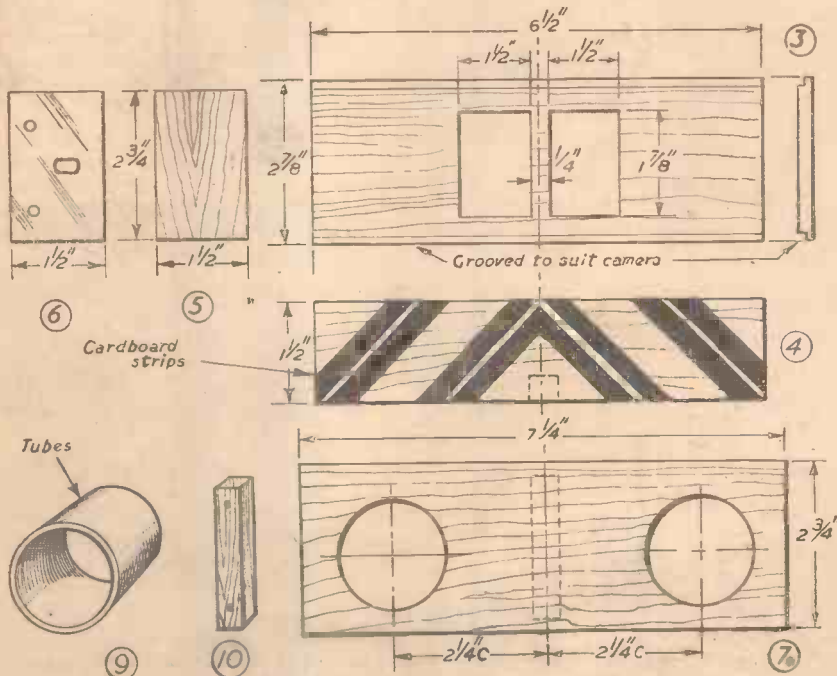
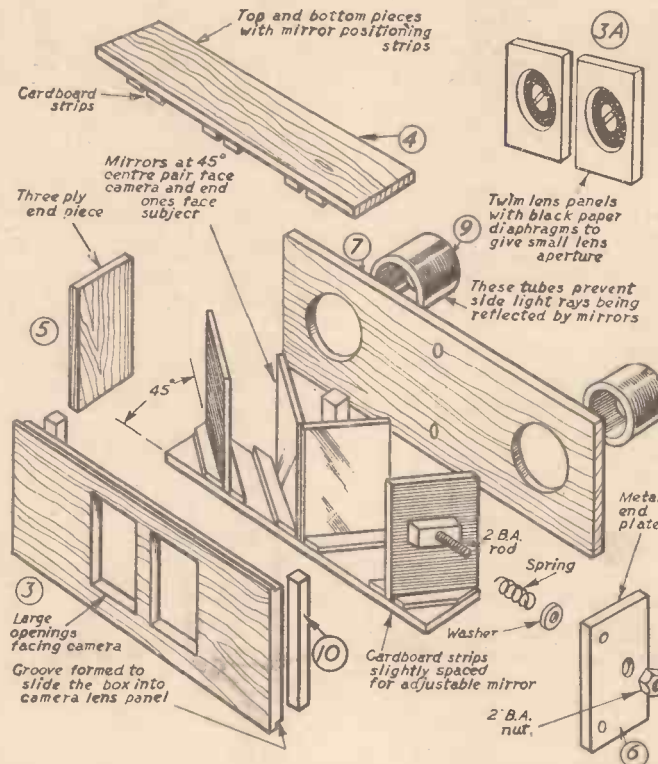

Fig. 1a.—Details of end pieces and front and back panels.
Fig. 2.—Exploded view of the adaptor, showing the various parts in order of assembly.
The completed adaptor is shown, and at the lower extremity will be seen the mirror adjusting nut. Owing to its importance, a cut-away sketch of the arrangement is shown just above the complete adaptor. Also in the exploded view, in Fig. 2, the several small parts can clearly be seen in order of assembly.
Referring now to Fig. 1a. Depending on the sizes, the front panel 7, and back panel 3 of the box are cut out of 3/16in. plywood, together with the top and bottom pieces 4. The black strips shown are cardboard strips glued on, and are set at 45 deg. with the front. These strips must, of course, be glued to form a right- and left-hand duplicate. In other words, the slots for the mirrors which these card strips form, are inside the adaptor. This will be clearly seen in Fig. 2. The slots should be clearly marked on the top and bottom plywood pieces in clear pencil lines, using a 45 deg. set square, and be sure that the distances apart for each pair of mirrors is the same, otherwise a difference in image size will occur. The outer pair of strips, top and bottom, should be very slightly more spaced to allow the very minute vernier adjustment by the 2 B.A. nut.
When the box of the adaptor is dry, the mirrors can be pushed into their appropriate slots. These mirrors must be the correct way round, of course, and reference to Fig. 2 will clear up any doubts on this point. Leave just one mirror out for the moment.
It will be seen from Fig. 2 that each lens is fitted to a small plywood panel, as shown at 3a. It may be preferred to cut out the centre strip of the separate panel openings in (3) and make one panel suffice. In any case the two lenses must be fitted with their centres exactly parallel, and the holes in the paper diaphragms cut out together, so that these holes are identical in diameter. If the adaptor is made as shown to slide in to the camera front, then the panels, when fitted, must not protrude. A simple turn-button fixture arrangement may be fitted for easy removal of the lens panels, but these, too, may have to be recessed. If the panels